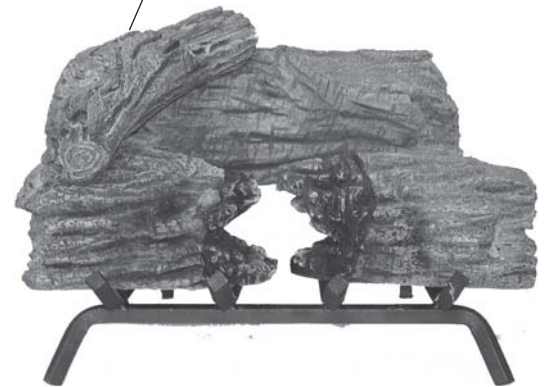

Figure 15 - Placing Left Middle Log (#4)
5. Install left side middle log #4 as shown. *See Figure 15.*